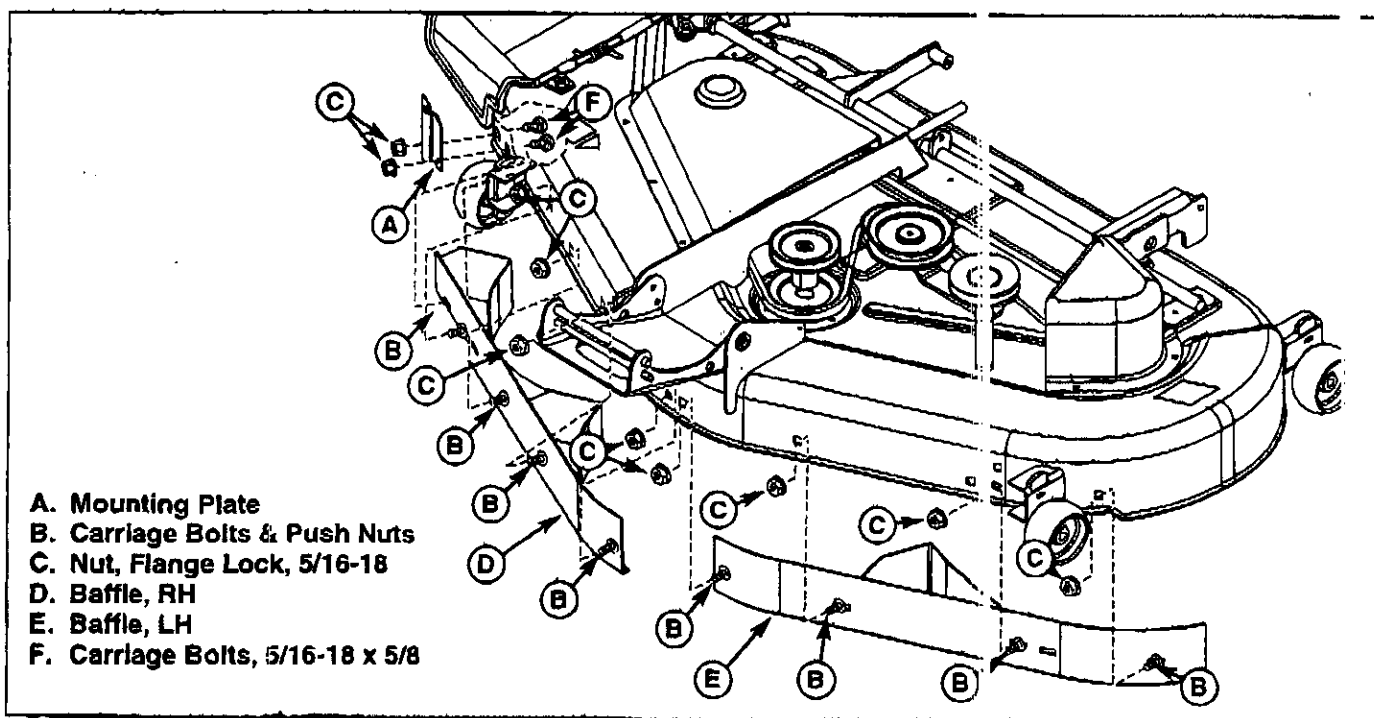
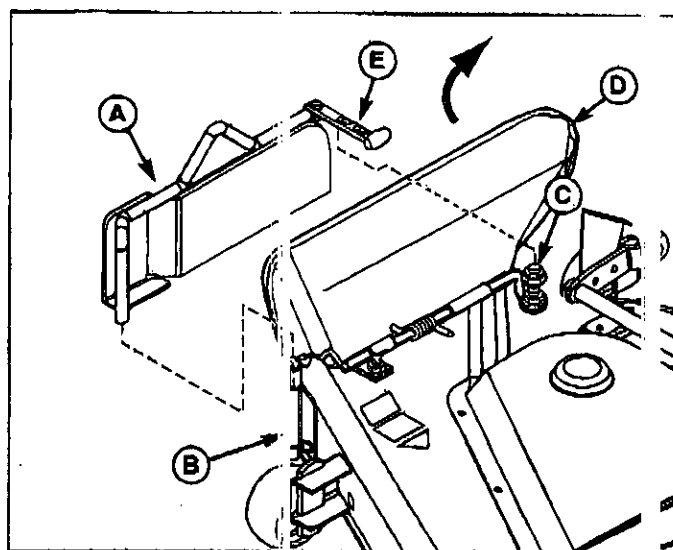

Figure 4. Baffle Installation
Figure 5. Mulch Cover Installation
7. Install mounting plate (A, Figure 4) to mower deck securing with 5/16-18 x 5/8 carriage bolts (F) nuts .
8. Install LH baffle (E) secure with carriage bolts & push nuts (B) and nuts (C).
10. Lift discharge deflector up (D, Figure 5).
11. Insert mulch baffle assembly (A) into mounting plate (B).
12. Pull rubber strap (E) and secure by placing strap completely over locknut (C).